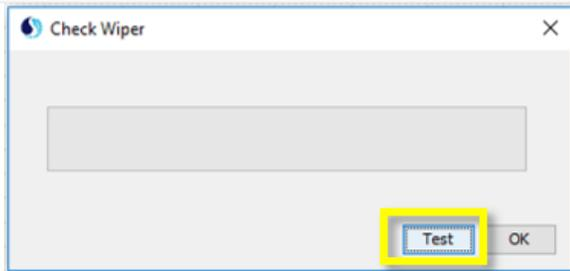

Figure 42. Select "Test" to Verify Wiper Function
**STEP 3** | Select "Test" and watch the wiper move through the optical window (Figure 42).